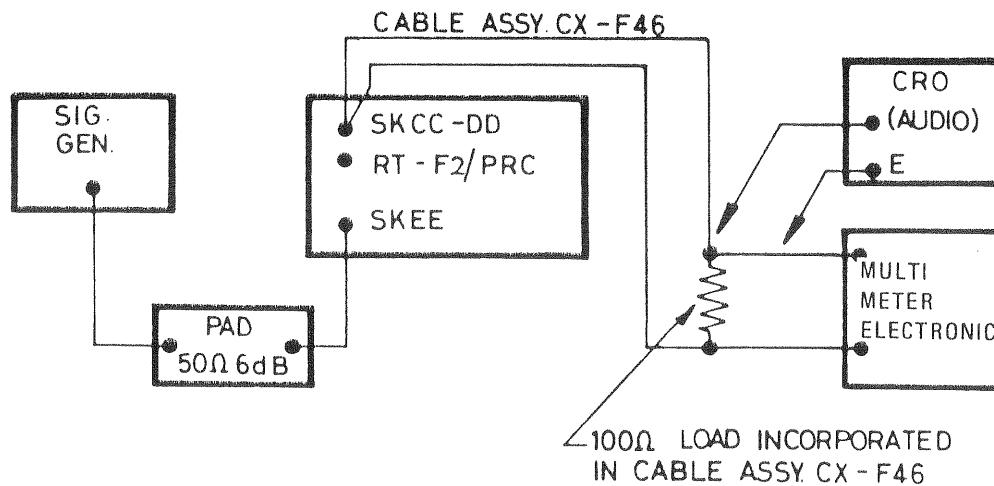

FIG 1 — RECEIVER SIGNAL TO NOISE RATIO — TEST SET-UP
- Set up equipment as shown in Fig 1.